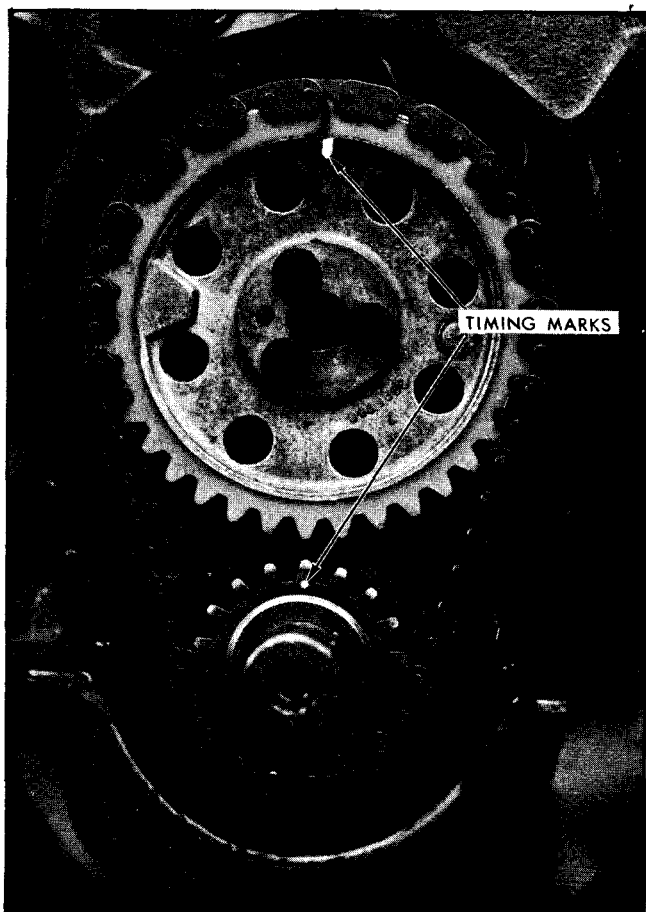

Fig. 6-128 Timing Marks Aligned at No. 1 T.D.C. - 307 Engine
4. On 307 engine, remove three camshaft sprocket retaining bolts (Fig. 6-128) and remove sprocket and chain.